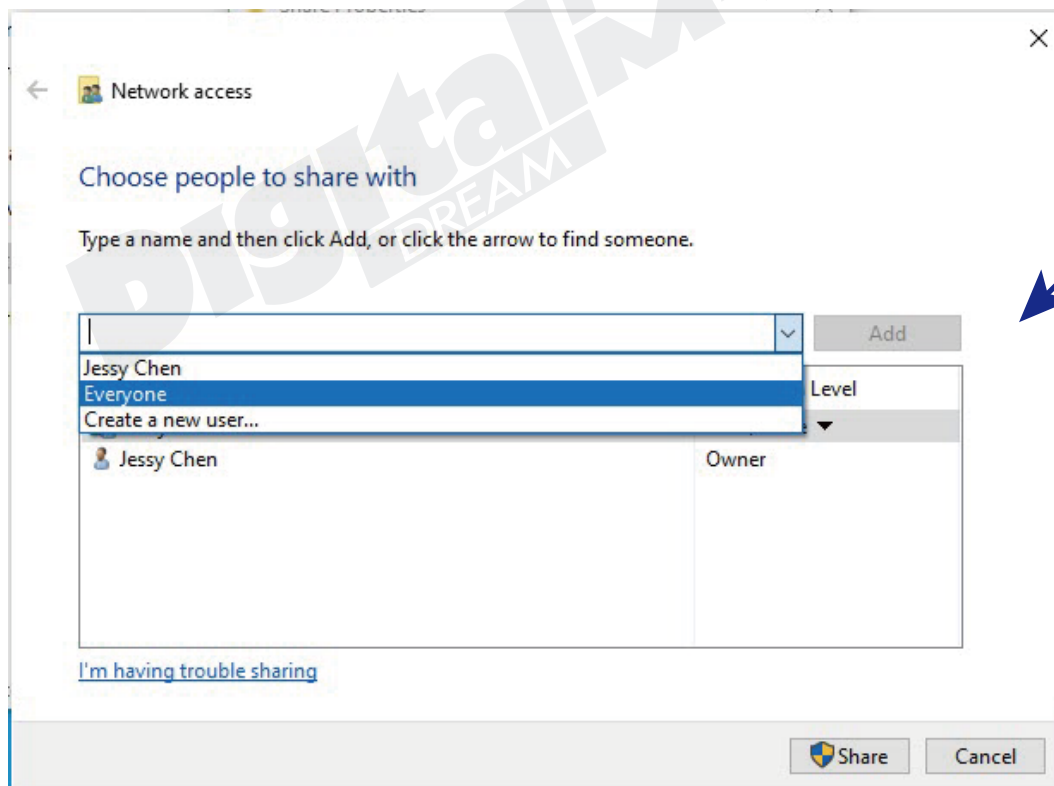

Figure 8-29
- 2) click “Share button”, and “Network access” windows popup as figure 8-29 shows;